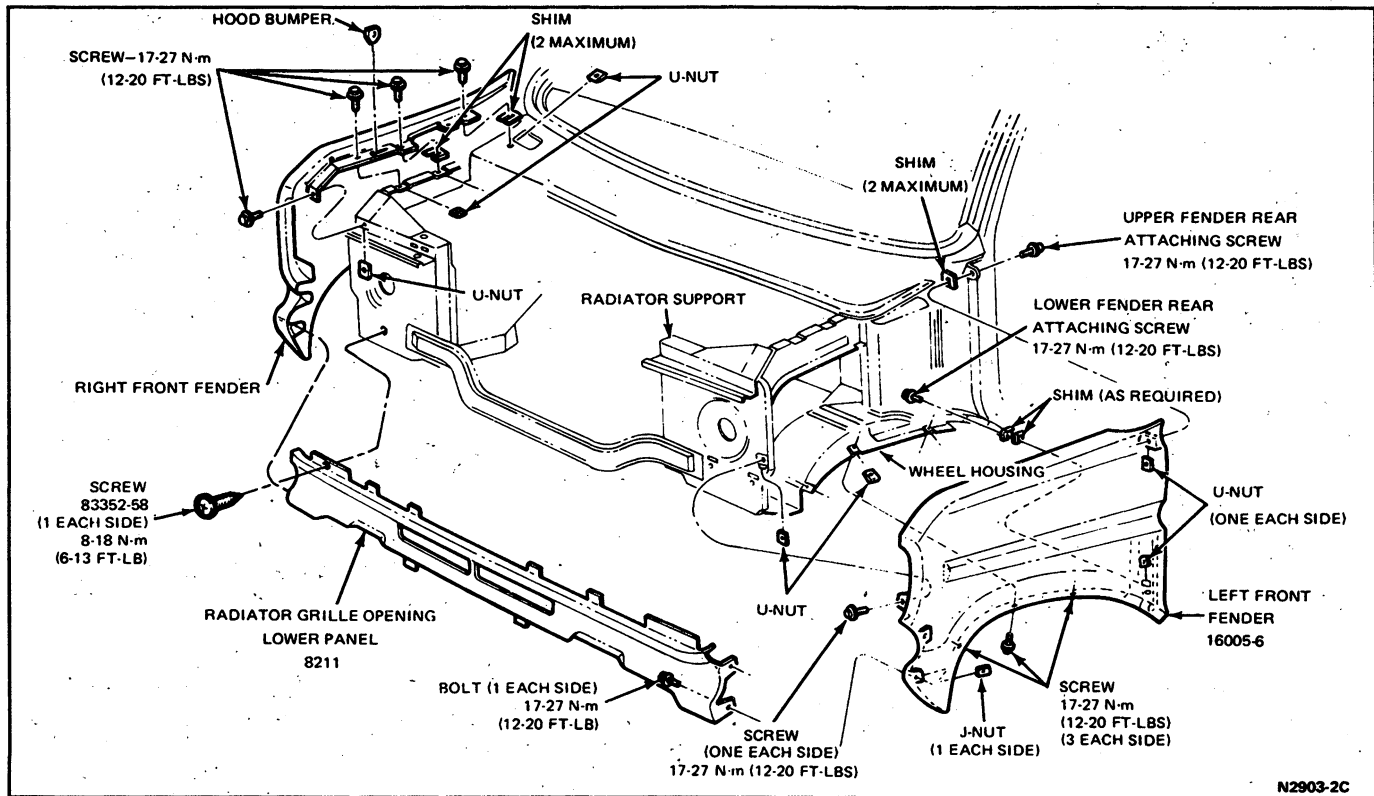

FIG. 2 Front Fender Installation
5. Remove the two side bolts which attach to the front fenders, two bolts per side (Fig. 2).
1. Install the two side bolts, two per side, retaining the ends of the radiator grille opening lower panel to the front fenders (Fig. 2).
2. Remove the two side bolts attaching the end of the radiator grille opening lower panel to the fender (Fig. 2).
4. Remove the lower fender rear attaching screw (Fig. 2) and shim(s).